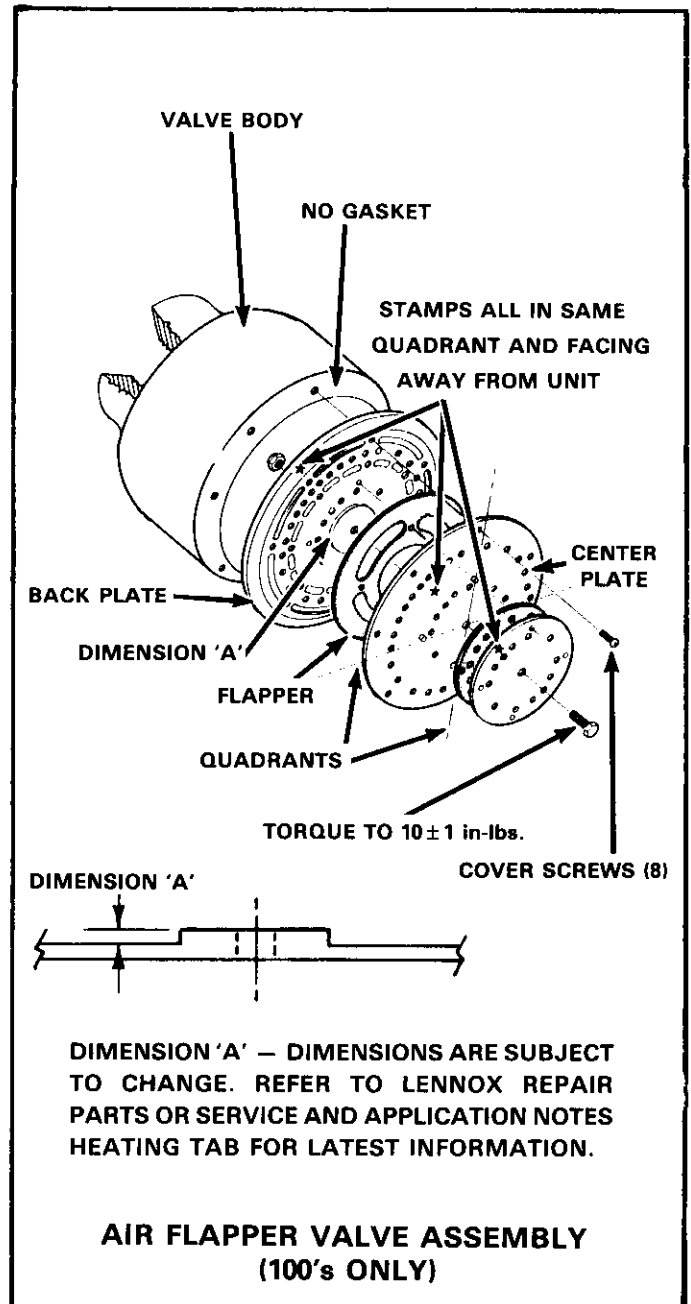

FIGURE 35
f. For models Q4/5-100 ONLY: THE FLAPPER ASSEMBLY FOR THIS UNIT DOES NOT REQUIRE A GASKET BETWEEN THE VALVE AND VALVE BODY (see Figure 35). The air flapper assembly is designed as a one-piece unit. Clearances between the flapper and back plate cannot be readily checked. If suspected of being faulty after a visual inspection, simply replace the assembly.